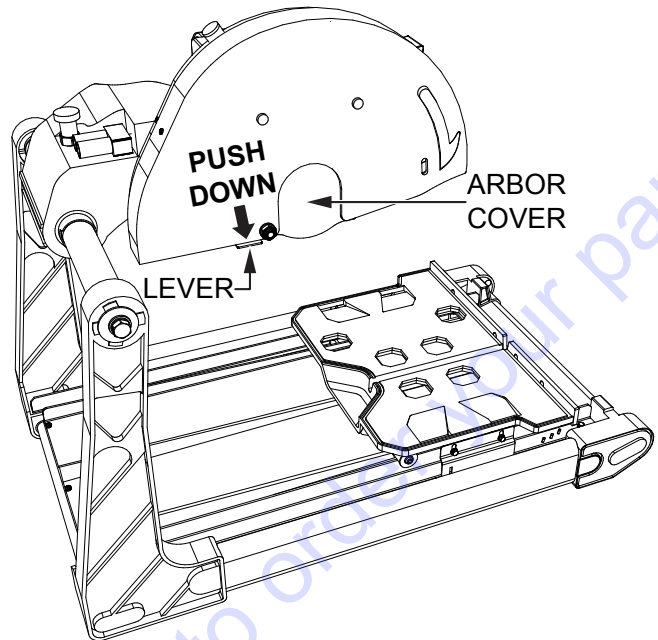

Figure 11. Open Arbor Cover
2. Push down on the arbor cover lever to open the arbor cover (Figure 11).